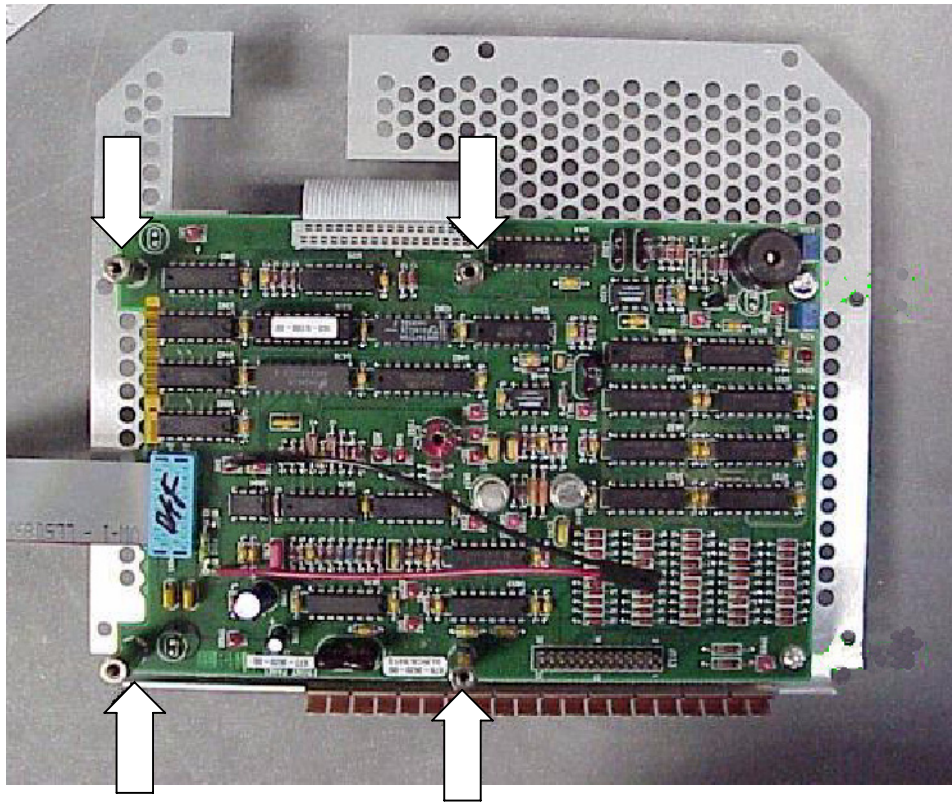

Figure 8: Standoff locations
- a. Remove four screws from the Keypad board (see Figure 8) and install the four standoffs (Tektronix part number 129-1602-xx) into the holes. Torque the standoffs to 8 in-lbs, using a 1/4 inch socket.